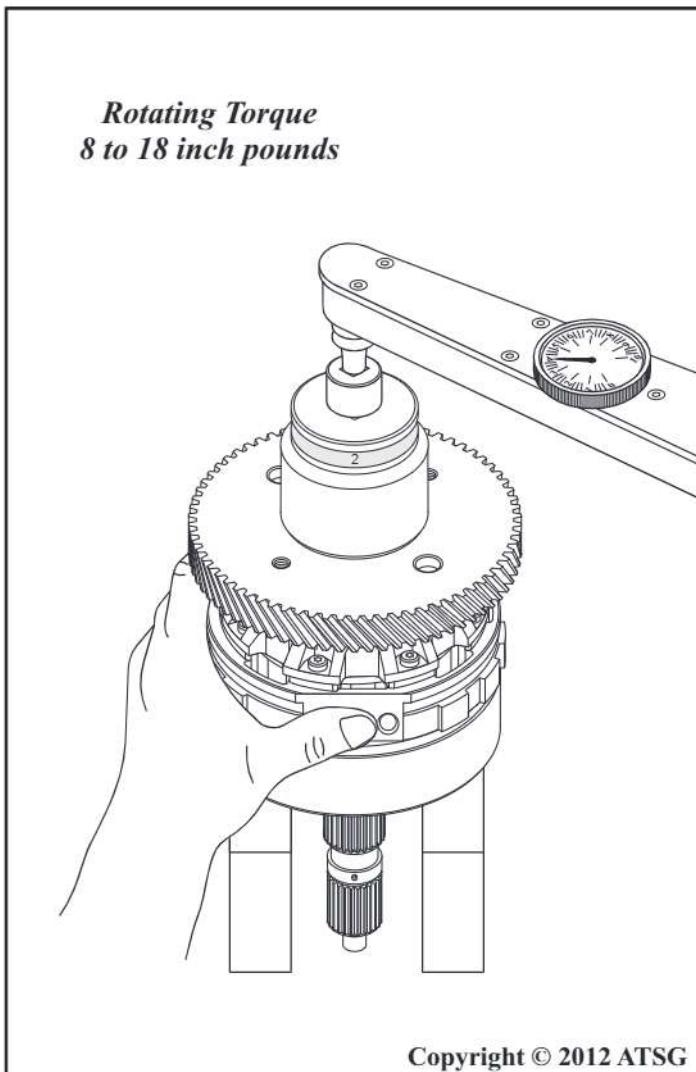

Figure 161
13. Check the rotating torque using an inch pound, dial type torque wrench, while holding low clutch housing, as shown in Figure 161 and 162.